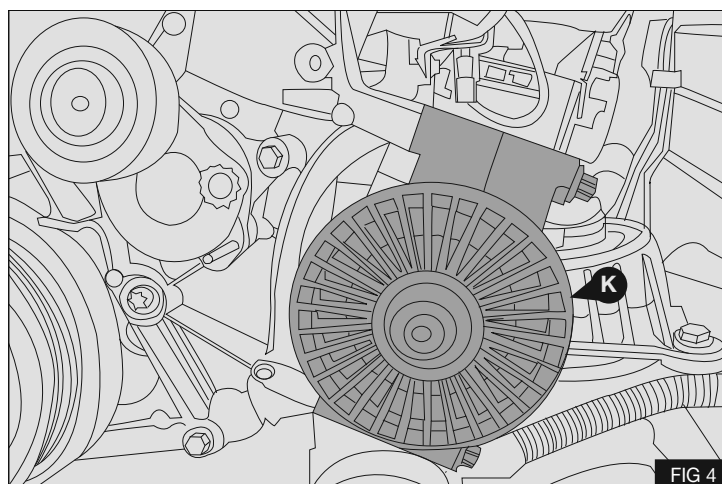

FIG 4
5. Remove and discard the original foolish pulley assembly (K) and 3x securing bolts – Fig 4
6. Discard Bracket (J)